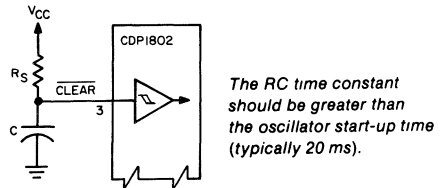

FIGURE 13. RESET DIAGRAM
Registers I, N, Q are reset, IE is set and 0's (V_{SS}) are placed on the data bus. TPA and TPB are suppressed while reset is held and the CPU is placed in S1. The first machine cycle after termination of reset is an initialization cycle which requires 9 clock pulses. During this cycle the CPU remains in S1 and register X, P, and R(0) are reset. Interrupt and DMA servicing are suppressed during the initialization cycle. The next cycle is an S0, S1, or an S2 but never an S3. With the use of a 71 instruction followed by 00 at memory locations 0000 and 0001, this feature may be used to reset IE, so as to preclude interrupts until ready for them. Powerup reset can be realized by connecting an RC network directly to the CLEAR pin, since it has a Schmitt triggered input, see Figure 13.